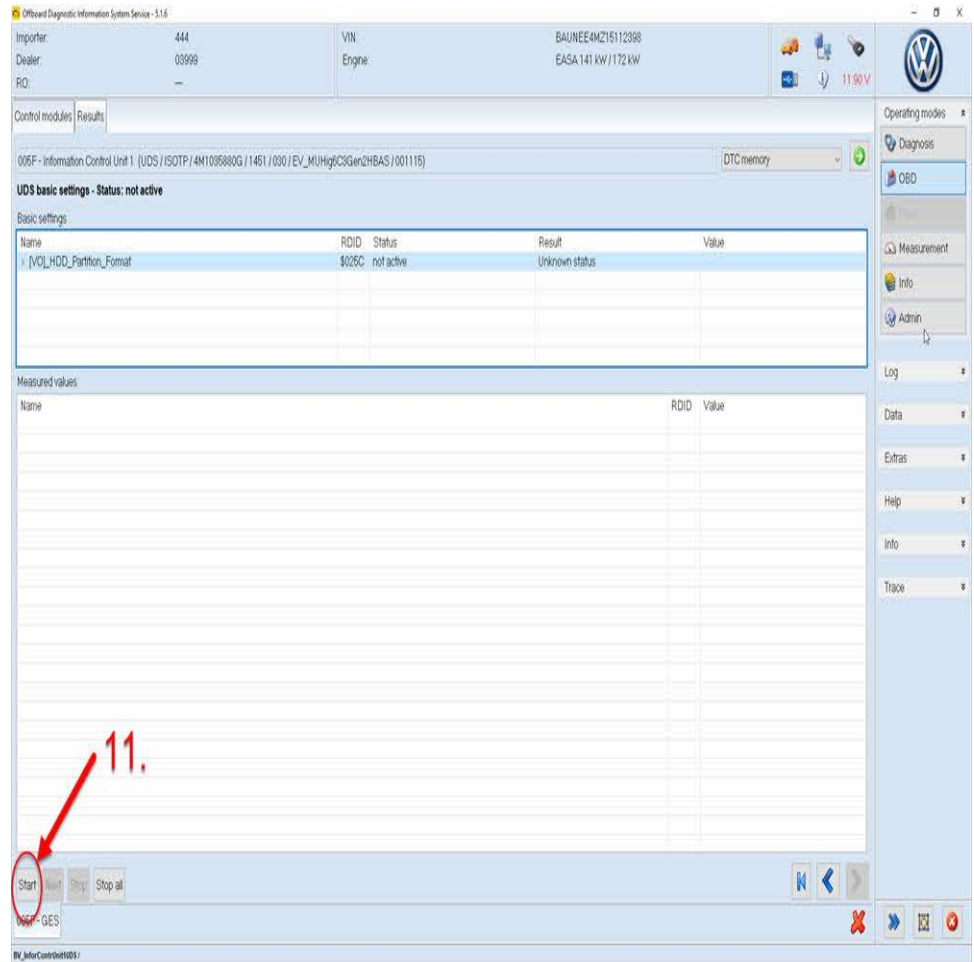

Figure 8. Execute the basic setting.
7. Select “Start” (11). The basic setting should complete within a few seconds (Figure 8).